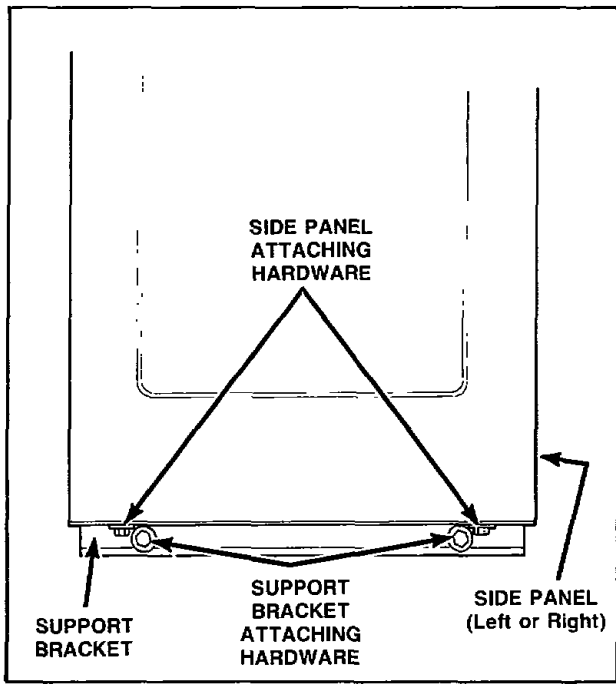

Figure 15
- j. Support side panel and remove the two sets of hardware holding the side panel to the support bracket, *Figure 15*.